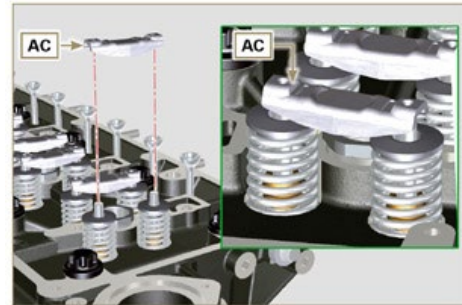

Fig 9.52
9. Secure the head **F** by tightening the screws **V** strictly following the sequence indicated in the **Fig. 9.52** or **Fig. 9.53** and the tightening torque indicated in the **Tab. 9.3**.